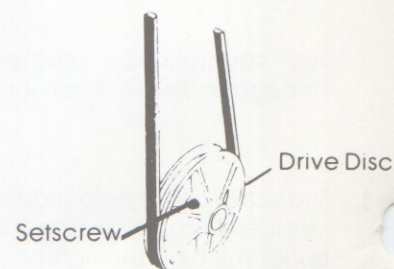

FIG. 10
14. Also tighten the nylon setscrew on the drive disc (see Fig. 10).